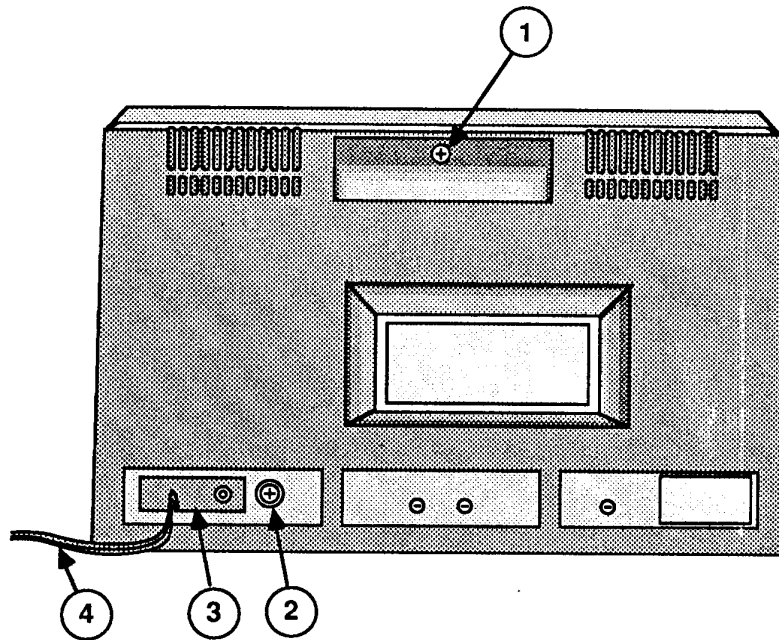

FIGURE 3
4. Remove the single screw (Figure 3, #1) located inside the top handle on the monitor case.
5. Remove the line cord molding screw (Figure 3, #2).
6. Slide the line cord molding (Figure 3, #3) to the left 1/8th inch. Gently push the molding inside the rear cover.
7. Carefully lift the rear cover off the chassis frame, while feeding the line cord (Figure 3, #4) through the opening on the rear cover. Set the rear cover aside.